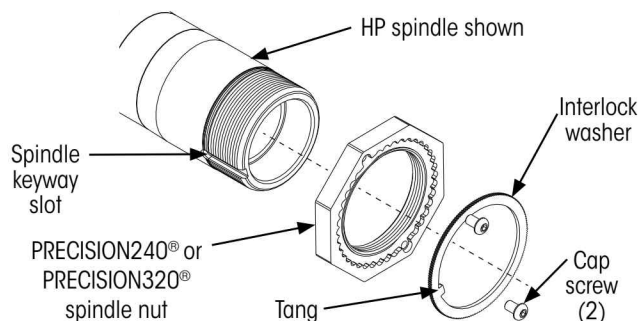
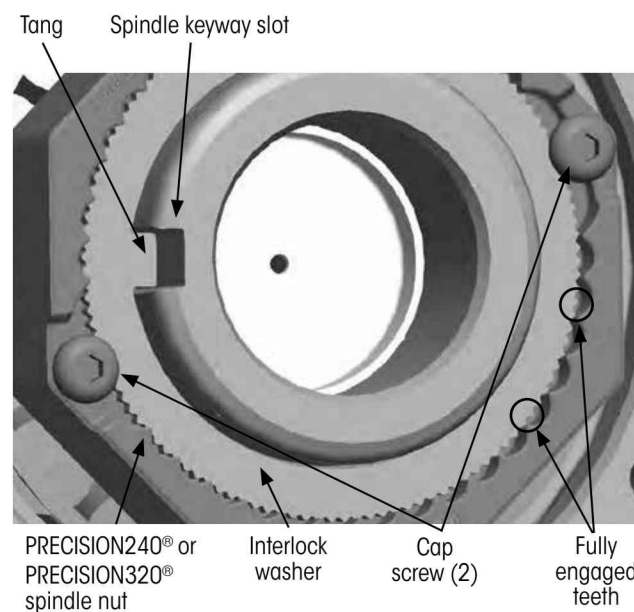

Figure 11: Precision spindle nut system components
Figure 13: Interlock washer and precision spindle nut fully engaged
1. **Install precision spindle nut** (Figure 11) onto the spindle, toothed side out, and **hand-tighten**.
9. **Install interlock washer** into the precision spindle nut with the tang aligned and inserted in the spindle keyway as shown in Figure 11 and Figure 13.
IMPORTANT: Teeth between the interlock washer and precision spindle nut must fully engaged as shown in Figure 13. **DO NOT ADJUST NUT TO ALIGN INTERLOCK WASHER**. Flip the washer over and reinstall.
10. **Install two button-head cap screws** (Figure 11) into the precision spindle nut until the heads of the screws just contact the face of the nut.
1. **Ensure** interlock washer is fully seated in PRECISION240® or PRECISION320® spindle nut (Figure 13).